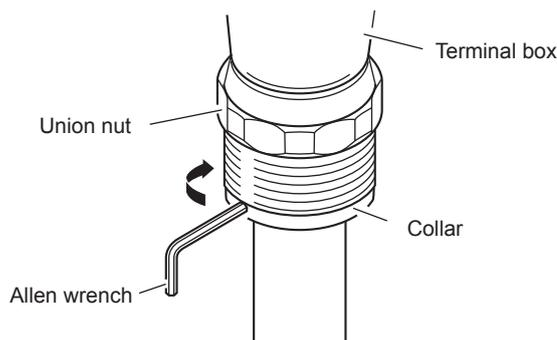

Figure 5.4 How to Remove Electrode Assembly
- (1) Stop the supply of power to the analyzer. How to disassemble or assemble the conductivity detector, refer to 5.1.1 Sensor Cleaning.
- (2) Disconnecting the electrode assembly from the dedicated cable
The electrode assembly of the SC210G low/medium-range conductivity detector is provided with a lead wire, which is connected to the dedicated cable through the terminal box. If the SC210G detector is used, remove the lead wires (4) of the electrode assembly connected to the terminal box. Separate the terminal box from the electrode assembly. The electrode assembly is fixed into the terminal box. Insert an Allen wrench into the two holes ($\varnothing 3.2$ mm) on the collar in the neighbourhood of the union nut and turn it counterclockwise to remove it (see Figure 5.4).